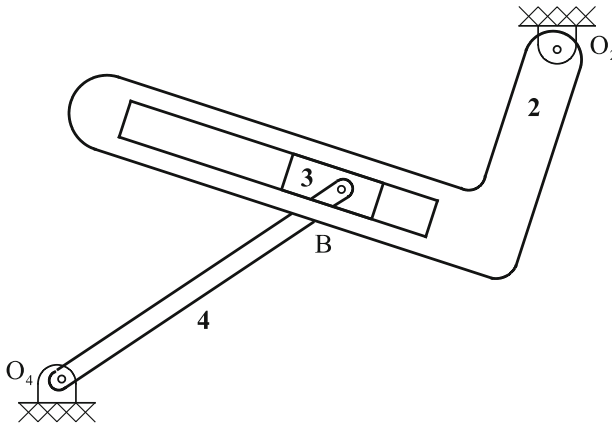

Fig. 2.47 A four-bar mechanism with rotating link in between
- 11. In a four-bar mechanism, according to Fig. 2.47, if bar 2 provides input movement, where is the center that slider 3 rotates around?